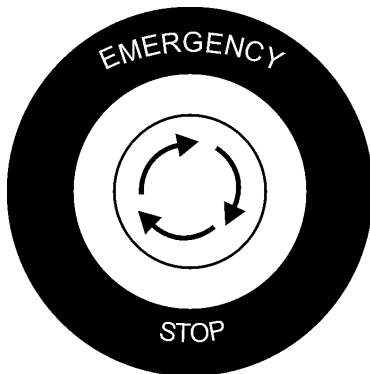

Figure 19. Emergency Stop Switch
2. Locate the Emergency Stop Switch (Figure 19) on the Hydraulic Pump Control Box. Turn the Emergency Stop switch counter-clockwise (open). This will allow the engine to start.
1. Depress the **Emergency Stop Switch** (Figure 19)